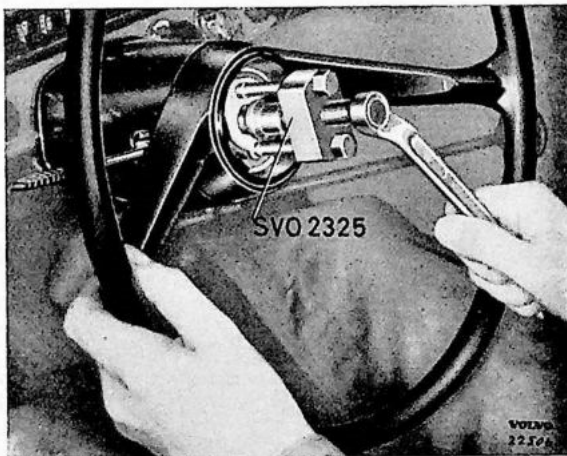

Fig. 1. Removing the steering wheel.
3. Check that the directional signal indicator is in the neutral position. Remove the steering wheel by using puller SVO 2325 as shown in Fig. 1.